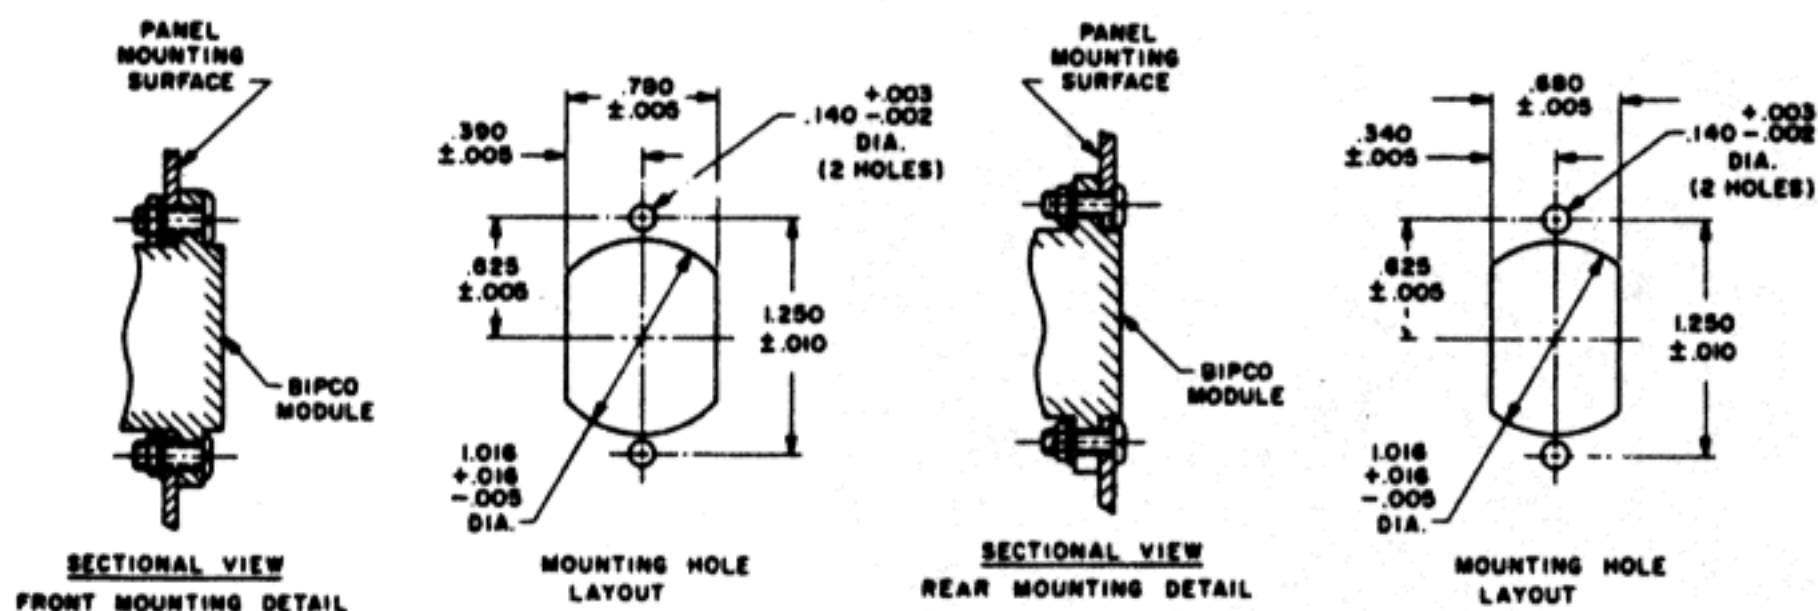

Figure 5. MOUNTING DIAGRAM (Note 8)
Mounting Diagram	Figure 5 (Note 8)
8. Modules may be mounted either in front of, or behind panel (Figure 5). Front mounting should be employed only when there is no back lighting. Rear mounting may be used whether or not back lighting is present. Following this rule will eliminate light showing through the panel.